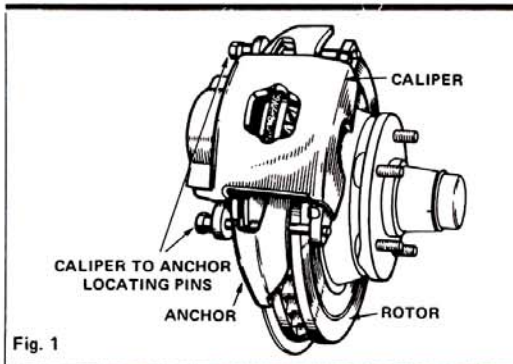

Fig. 1
4. Remove the two caliper to anchor locating pins (Fig. 1). Do not disconnect hydraulic hose from caliper.